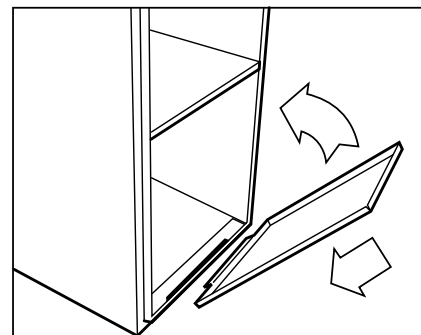

Fig. 15 - Replace Blower Access Panel
8. Replace blower access panel and main furnace door or filter cabinet door. (See Fig. 15).